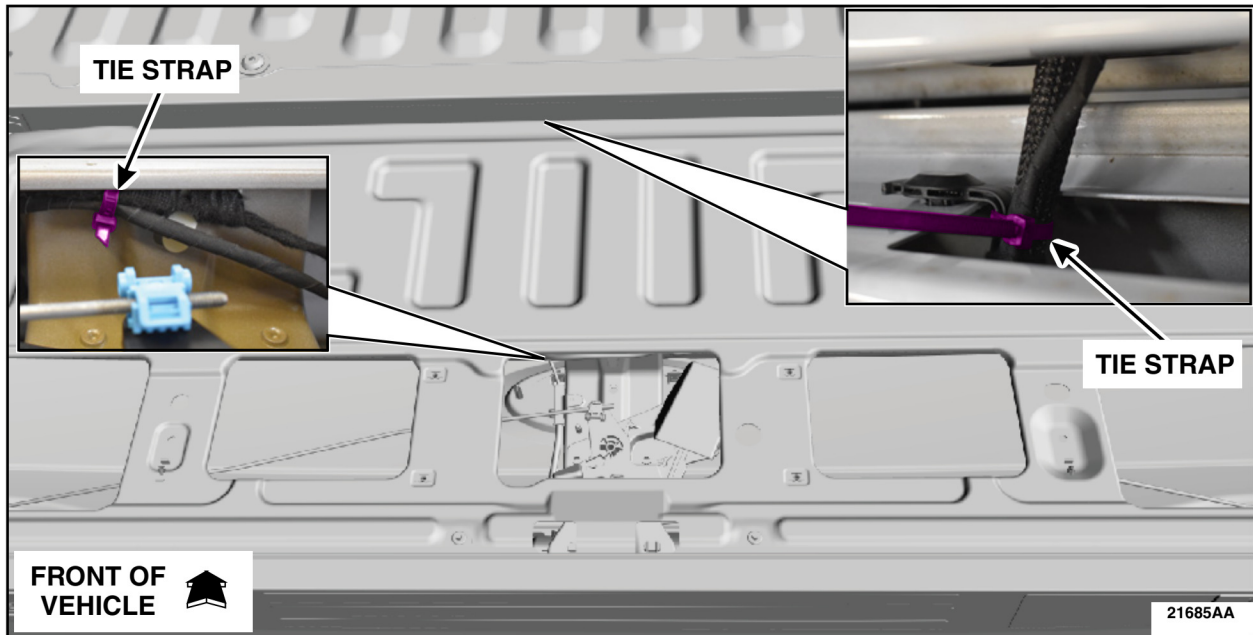

FIGURE 28
32. Secure the Tailgate Jumper Harness using tie straps and trim any excess length of tie strap. See Figure 28.